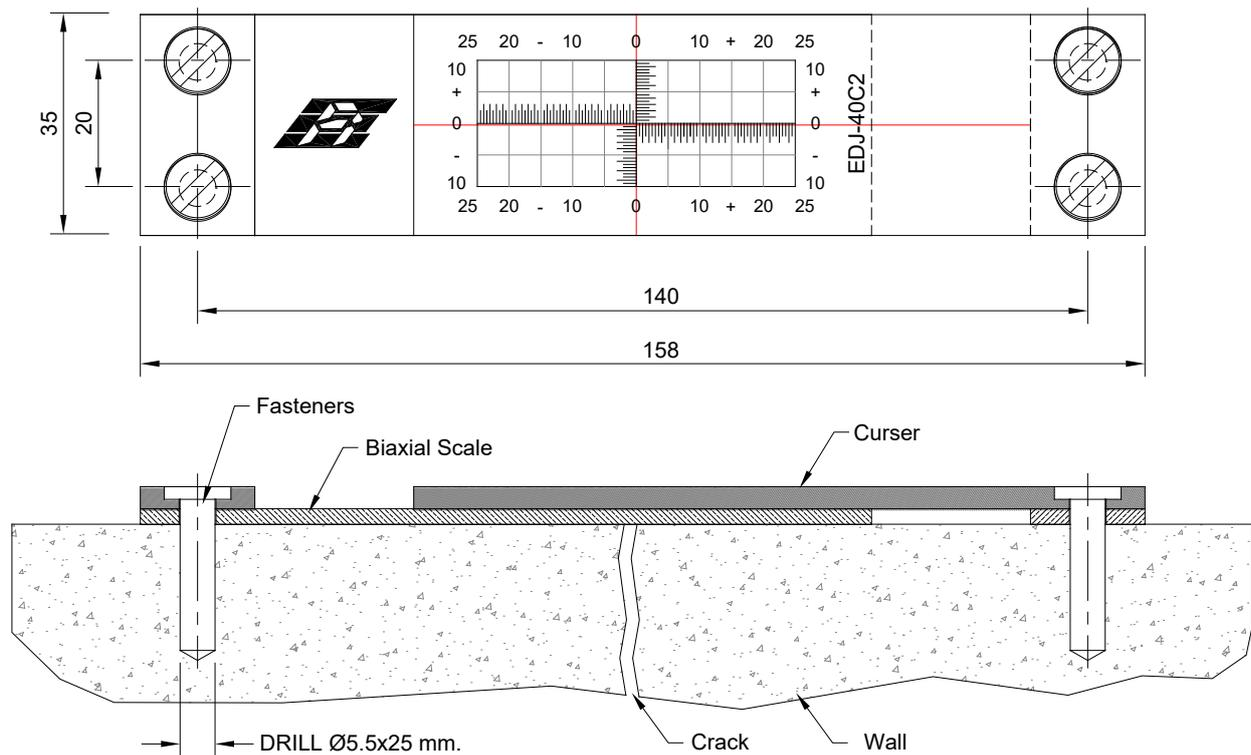

Figure 2: EDJ 40C2
The model **EDJ-40C2** biaxial mechanical crack meter (refer to figure 2) consists of a graduated scale with a resolution of 0.5 mm and a transparent acrylic plate with a hairline cursor mark. The graduated scale and the transparent acrylic plate is assembled across the crack with expandable anchors in 5 mm diameter holes drilled to a depth of 30 mm as shown in the figure 2.
2. Drill another two 5 mm diameter, 30 mm deep holes 140 mm apart from the first ones on the other side of the crack as shown in figure 2.